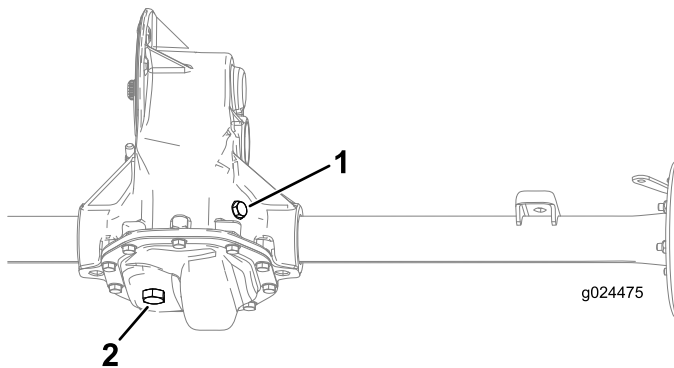

Figure 46
2. Remove the fill plug on the transaxle (Figure 46).
3. If the oil level is low, remove the fill plug and add the specified oil until it runs out of the hole (Figure 46).
1. Align a drain pan under the drain plug (Figure 46).
2. Remove the fill plug and the seal (Figure 46).
3. Remove the drain plug and the seal, and allow the oil to drain completely (Figure 46).